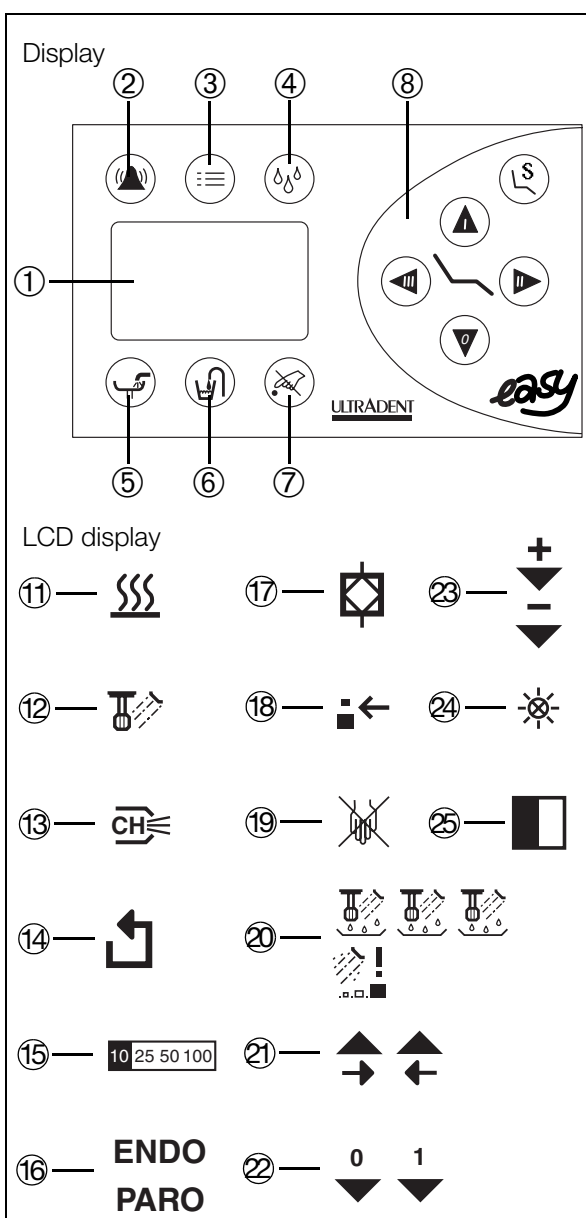

Fig. 71
- Remove the cases from all the syringes and place the syringes themselves in the corresponding adapter cases (④, ⑤ or ⑥) in such a way that the water flow buttons on the syringes are activated.
④ for Sprayvit L
⑤ for Sprayvit 4000
⑥ for three-way syringe
- Tap the menu button ③ (Fig. 71) on the display. The submenu then appears.
- Tapping the touch key marked with the symbol ② (Fig. 71) causes a "1" to appear on the symbol and activates intensive disinfection.
- Press menu key ③ (Fig. 71) again and immediately activate instrument rinsing by holding down key ④ (Fig. 71).
The symbols ⑰ (Fig. 71) and ⑳ (Fig. 71) are then displayed on the screen.
Symbol ⑰ (Fig. 71) should no longer be visible.
- After the signal tone, return to the main menu by tapping the menu button ③ (Fig. 71).